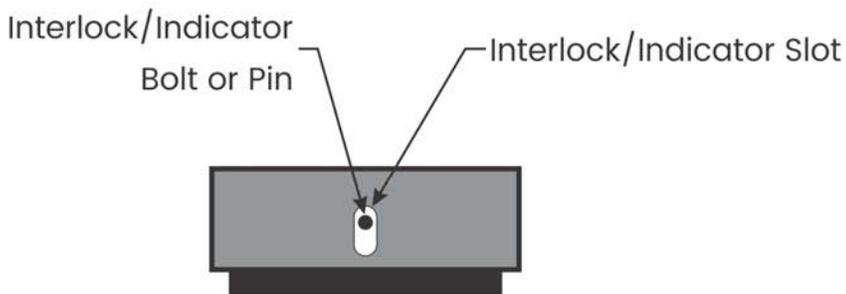

Figure 3A
- Models 216 and Two-Screw BFM Series isolators are equipped with four Interlock/Indicator bolts or pins. These serve as a quick check for centering the resilient cushion. The Interlock/Indicators should be centered side-to-side in the interlock slots as shown in Figure 3A. If the resilient cushion is not centered, the Interlock/Indicators appear as shown in Figure 3B.